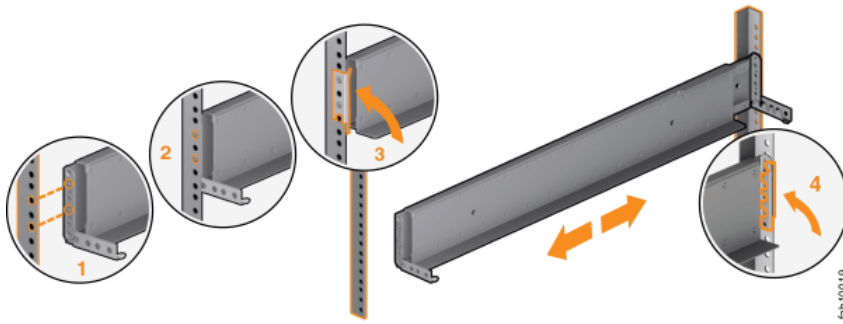

Figure 36. Closing the hinge brackets
9. Close the rear hinge bracket to secure the rail to the rack cabinet flange. (See Figure 36 on page 71.)
See Figure 36 on page 71.